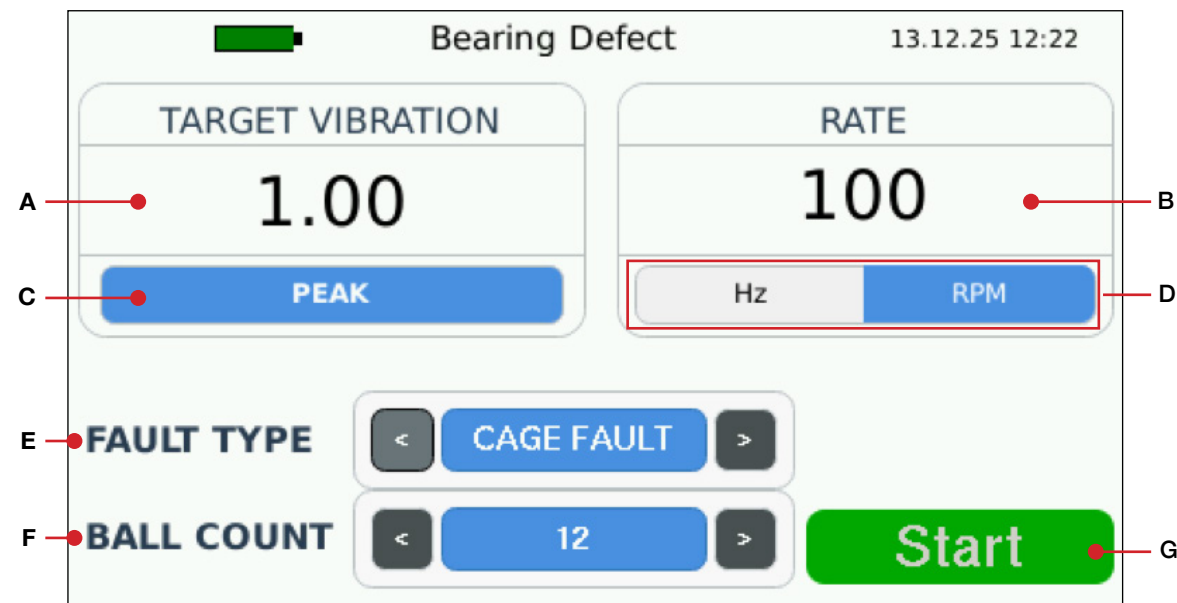

Figure 13
- From the main menu, select **Bearing Fault** to open the Bearing Defect screen (*Figure 13*).